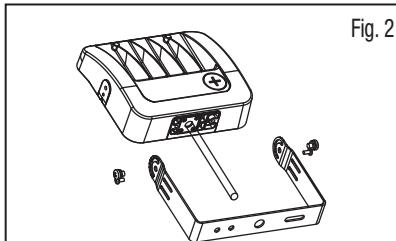

Fig. 2
4. Using the Phillips Head Yoke Mounting screws (M6x12), fix the yoke mount to both sides of the fixture in the larger of the two holes. (Fig. 2)